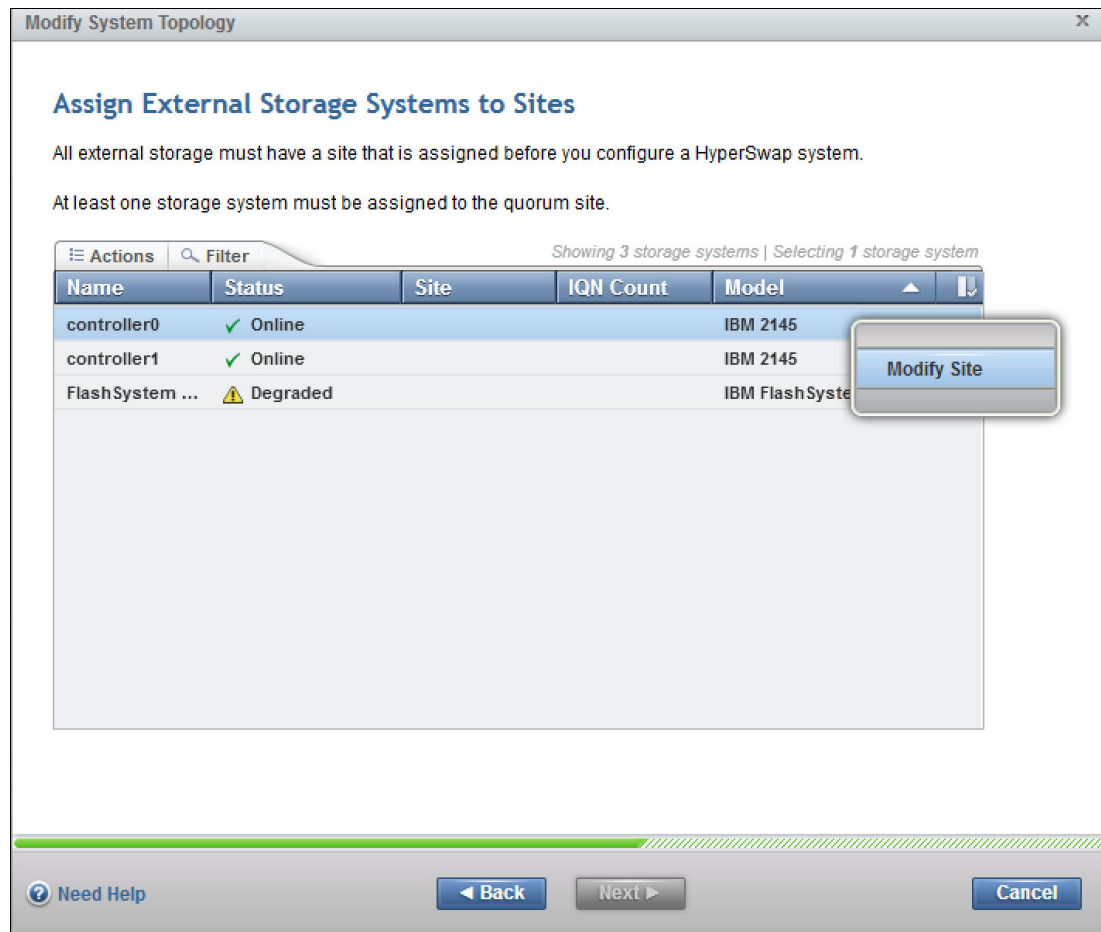

Figure 4-39 Modify system topology
6. Figure 4-39 shows adding the controllers. As part of implementing HyperSwap, just like with hosts you need to configure sites for the controllers to provide site awareness.